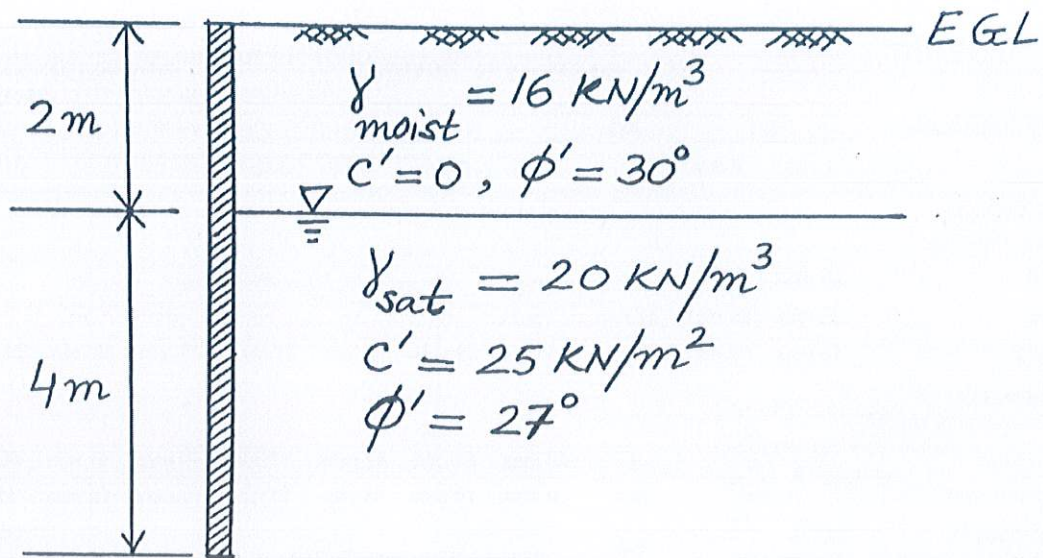

Fig. 1
- Pore pressure change versus axial strain for saturated samples of normally consolidated and overconsolidated clays in consolidated undrained (CU) triaxial compression tests.
- Volume change versus shear displacement for saturated samples of loose sand and dense sand in consolidated drained (CD) direct shear tests.
- A vane, 100 mm height and 50 mm diameter was pressed into a clay deposit at the bottom of a borehole and the bottom of the vane is flush with the surface of the clay. Torque was applied and its value at failure was found to be 17 N-m. Assuming uniform mobilization of end shear, calculate the in-situ undrained shear strength of the clay. If the values of liquid limit and plastic limit of the clay are 56 and 20, respectively, what will be the design value of undrained shear strength of the clay? (6)
- (c) A smooth vertical wall of height 9 m retains a soft clay backfill of unit weight 17.5 kN/m^3 . Undrained shear strength of the clay backfill is 35 kN/m^2 . For undrained condition ($\phi = 0$) of the backfill, calculate the following: (6)
- (d) For the retaining wall shown in Fig. 1, draw Rankine's passive pressure diagram and determine the total passive force per meter length of the wall. (8)